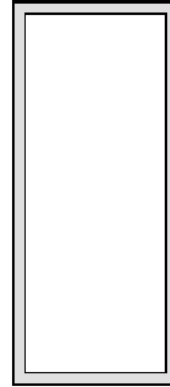

Figure 26. Solder Paste Application on Pins
4. The aperture opening for the signal pads should be between 50–80% of the QFN pad area as shown in Figure 26.